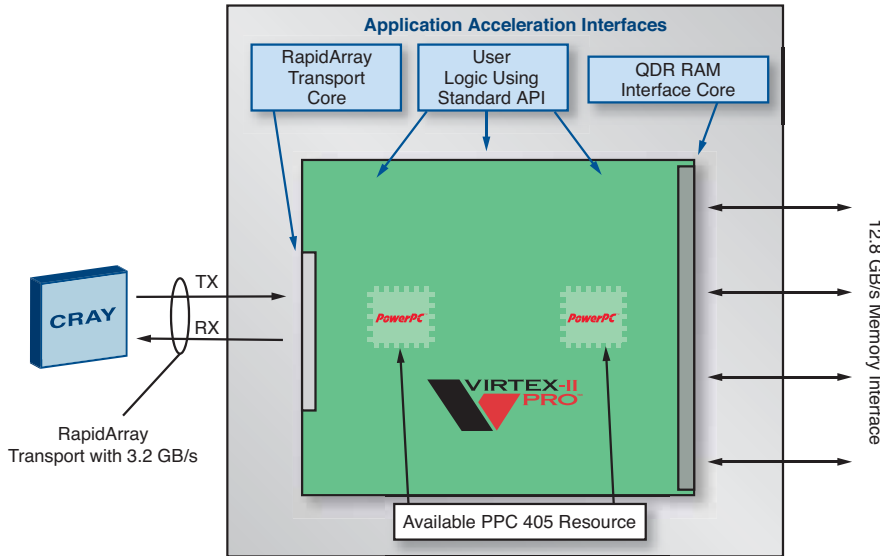

Figure 3 – Xilinx-based application acceleration module
- Acceleration application modules. The application acceleration subsystem incorporates RC capabilities to deliver substantial performance increases for targeted applications (Figure 3). Each Cray XD1 chassis can be configured with six application acceleration processors (one per blade), originally developed using the Xilinx Virtex™-II Pro device